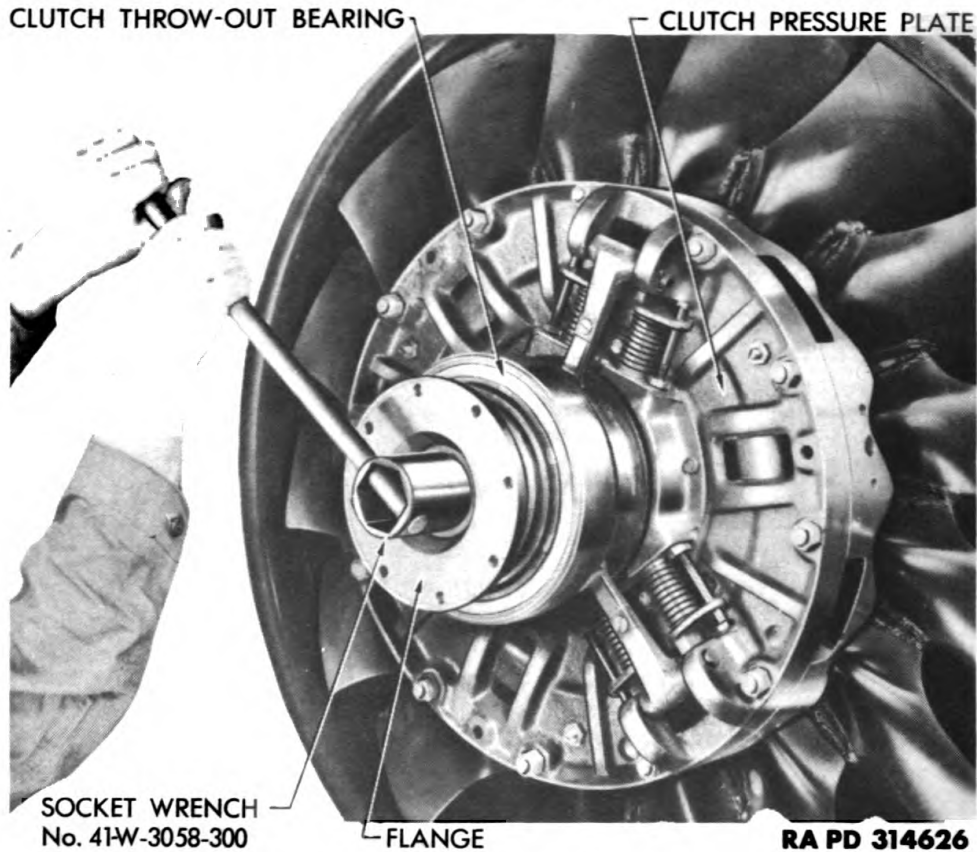

Figure 17 — Removing Clutch Spindle Flange Retaining Nut
a. **Remove Clutch Spindle Flange.** Pull cotter pin from flange retaining nut, and remove nut (fig. 17), using wrench (41-W-3058-300). Pull flange straight off clutch spindle (fig. 18). If necessary, use a standard bearing puller to remove flange.